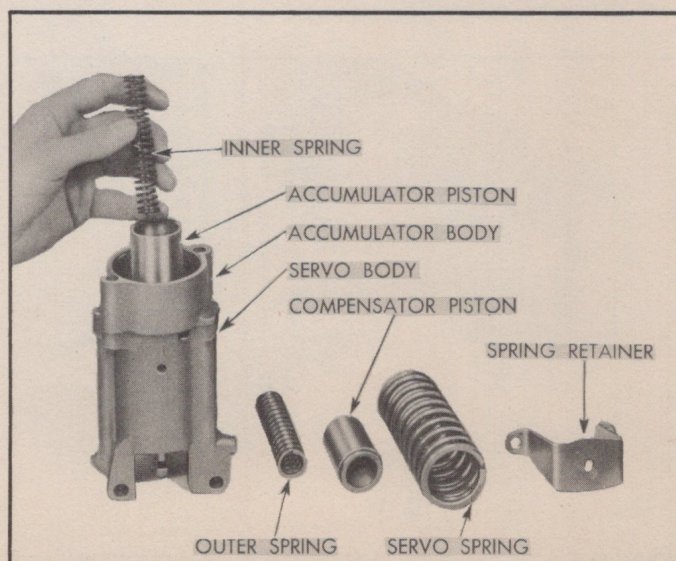

Fig. 170—Disassembling Rear Servo
4. Remove spring retainer, servo spring, compensator piston, and two springs (inner and outer) (Fig. 170).